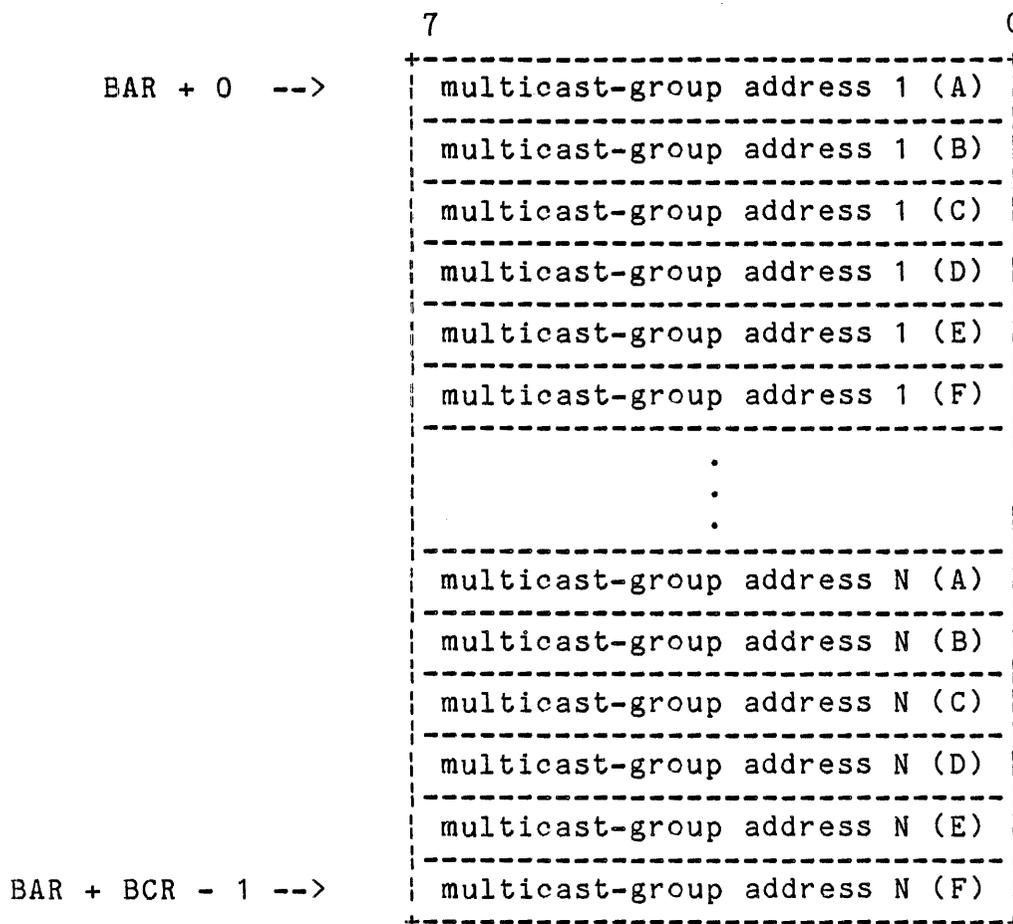

Figure 3-6.
**Data Format:** The host must load the multicast addresses into the transmit FIFO in the format shown in Figure 3-6.
**Data Format:** The host must load the multicast addresses in the transmit FIFO in the format shown in Figure 3-6. See the description of the Load Group Address(es) command for this figure.